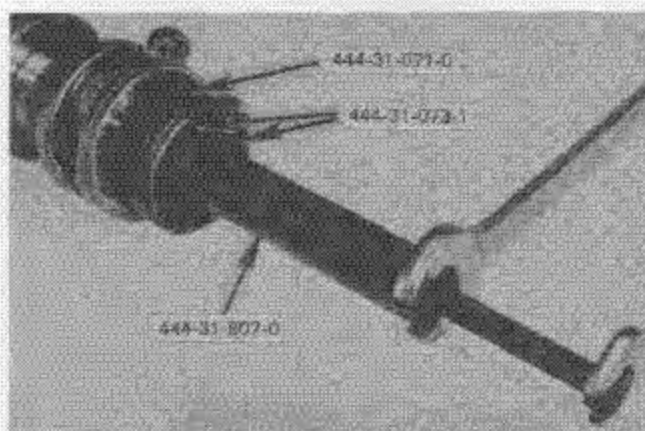

Fig. 13 — Removing Bearing from Crankshaft
15. Remove oil seal and alignment washer from PTO end of crankshaft. If bearings require replacement use special tool to remove, Fig. 13.